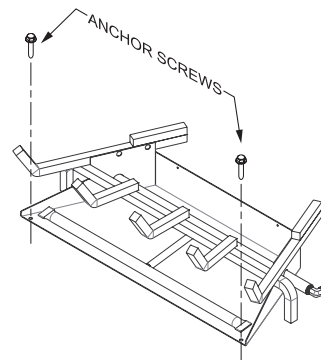

Figure 5
2. An anchor hole is provided in the two bottom side members of the grate frame. After centering the grate correctly, mark the hole positions on the fireplace/firebox floor. Drill two (2) 5/32" diameter holes approximately 1-1/2" deep for masonry screws or 1/8" hole for sheet metal screws.
3. Anchor the grate to the fireplace/firebox floor using the screws provided. Refer to Figure 5.